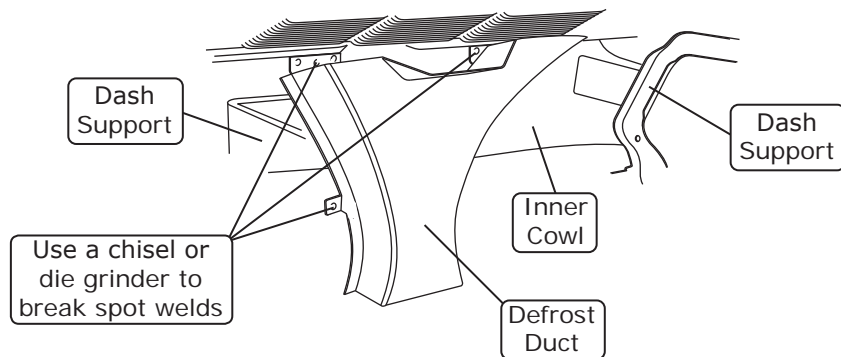

Figure 2
6. Remove the (3) spot welds on the defrost duct with a chisel or die grinder (See Figure 2, below).